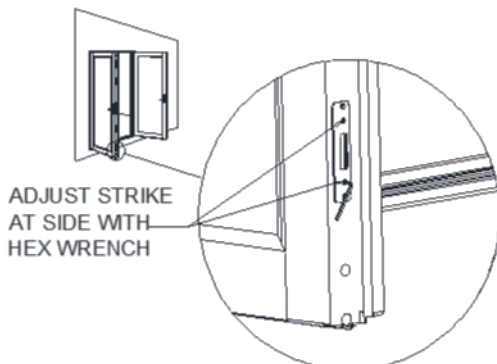

Figure 12
4. **Use** a $1/8"$ hex wrench (not included) to perform the following adjustments. If a single door, adjust strike plates on the frame jambs. If a double door, open door and adjust the strike plates on the side of the inactive panel (Figure 12). Make adjustments until the Rhino hooks function correctly.